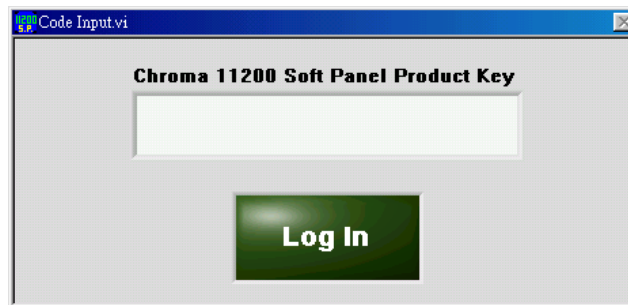

Figure 3-1 Entering the Serial No.
After the installation is done, click **Start** → **Programs** → **Chroma 11200 Soft Panel** will prompt the window as Figure 3-1 shows. Please enter the serial number listed on the software package and click Log In. It helps customers obtaining their rights for product updates.
- When error appears please check the communication interface or if its setting parameters are correct. If any mistake is found, click **Reset** to return to the Start up window as showed in Figure 3-1 for setting.
- The test state Charge/Test/Discharge is displayed. The measurement varies with the LC or IR selected by user. In LC mode, the measurement readings are Measure Testing Voltage (V) and L.C. (uA); while in IR mode, the measurement reading is the value of IR (Ohm). The readings report can be exported in Excel format.
- Reset: It returns to the Figure 3-1 Start up window for communication parameters setting and performing initialization.